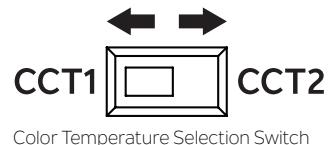

Fig. 17
Step 1. Locate the color temperature selection switch on the light kit, and select the desired LED color temperature (**CCT1 = 3000K soft white, CCT2 = 5000K daylight**) (Fig. 17)